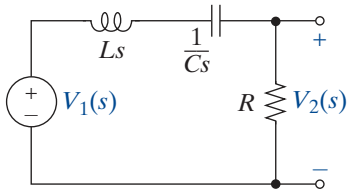

FIGURE P11-3
- 11-3 Find the driving point impedance seen by the voltage source in Figure P11-3 and the voltage transfer function $T_V(s) = V_2(s)/V_1(s)$.